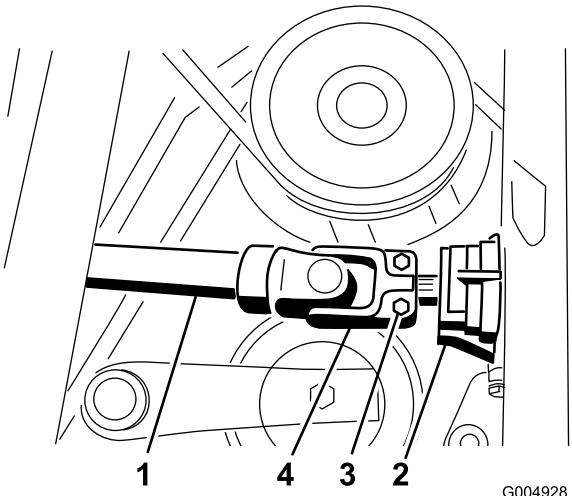

Figure 103
- 13. Remove the roll pin and loosen the two capscrews securing the drive shaft to the gearbox shaft (Figure 103). Slide the drive shaft off the gearbox shaft.